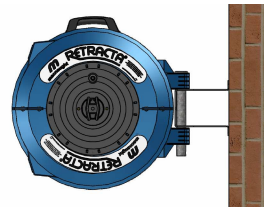
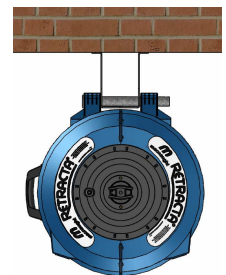

Fig.1 BU100 - Wall
Fig.2 BU100 - Overhead
B) The BU100 mounting bracket (supplied) is suitable for installing the reel up to 1.8mtrs high on a wall or up to 4.5mtrs overhead (see Figures 1 and 2). This bracket allows the reel to swivel in the direction of use. To prevent the reel from swiveling in the overhead position (figure 2) only install the locking bracket RB9 (supplied).